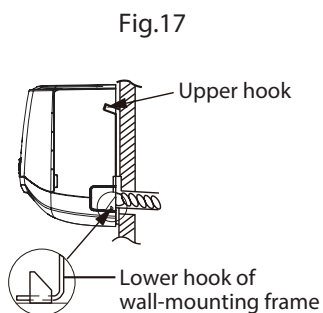

Fig.17
5. Check if the indoor unit is installed firmly and close to the wall.(As show in Fig.17)